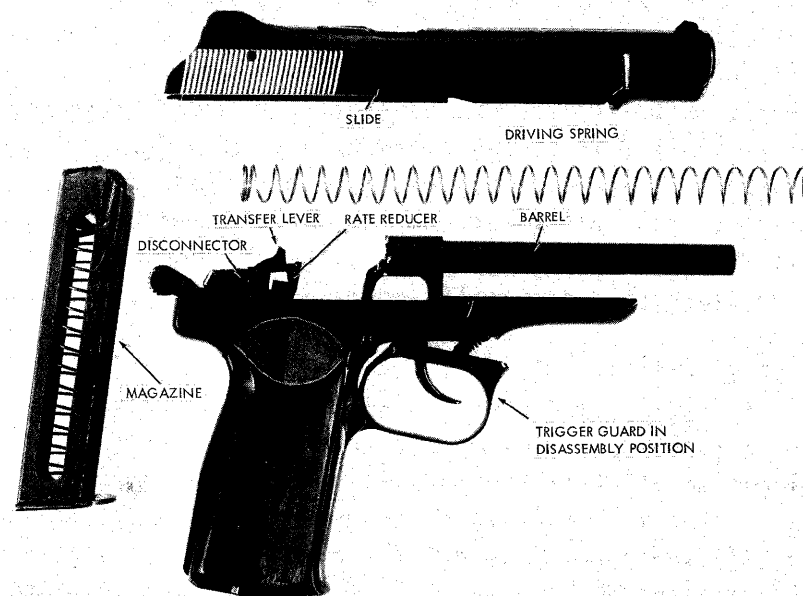

Figure 23. Stechkin, disassembled.
(1) Clear the weapon (para 33g), but do not insert the magazine or reset the selector to safe.
(2) Pull the front of the trigger guard down; it will remain in position (fig 23).
(3) Grasp the slide by its milled grooves, pull it fully rearward, and lift its rear end up and out of engagement with the receiver. Ease the slide forward, over the barrel, until it is free. Pull the driving spring off the barrel.
(4) No further disassembly is necessary or desirable.
c. When the Stechkin is cocked and set for semiautomatic fire, pressure on the trigger moves the trigger bar forward. As the trigger bar moves forward, it cams the disconnector upward (17, fig 24). The stud on the side of the disconnector lifts the sear (15, fig 24) from engagement with the hammer. The hammer falls, under pressure of the mainspring, and fires a cartridge. The slide is forced rearward by the propellant gases, the driving spring is compressed, the disconnector is cammed down (fig 23), and the hammer is rocked rearward.
f. As the slide recoils, a cam on the slide strikes a T-shaped transfer lever (figs 23 and 24) and forces it down against the retarder; this transfers some of the energy from the slide to the retarder and drives the retarder downward against its spring. By the time the slide counterrecoils, the retarder, driven by its spring, has started upward, and strikes the transfer lever, driving it upward. The lever hits the shaft of the selector and stops. At this selector setting, the retarder does not strike the trigger bar.